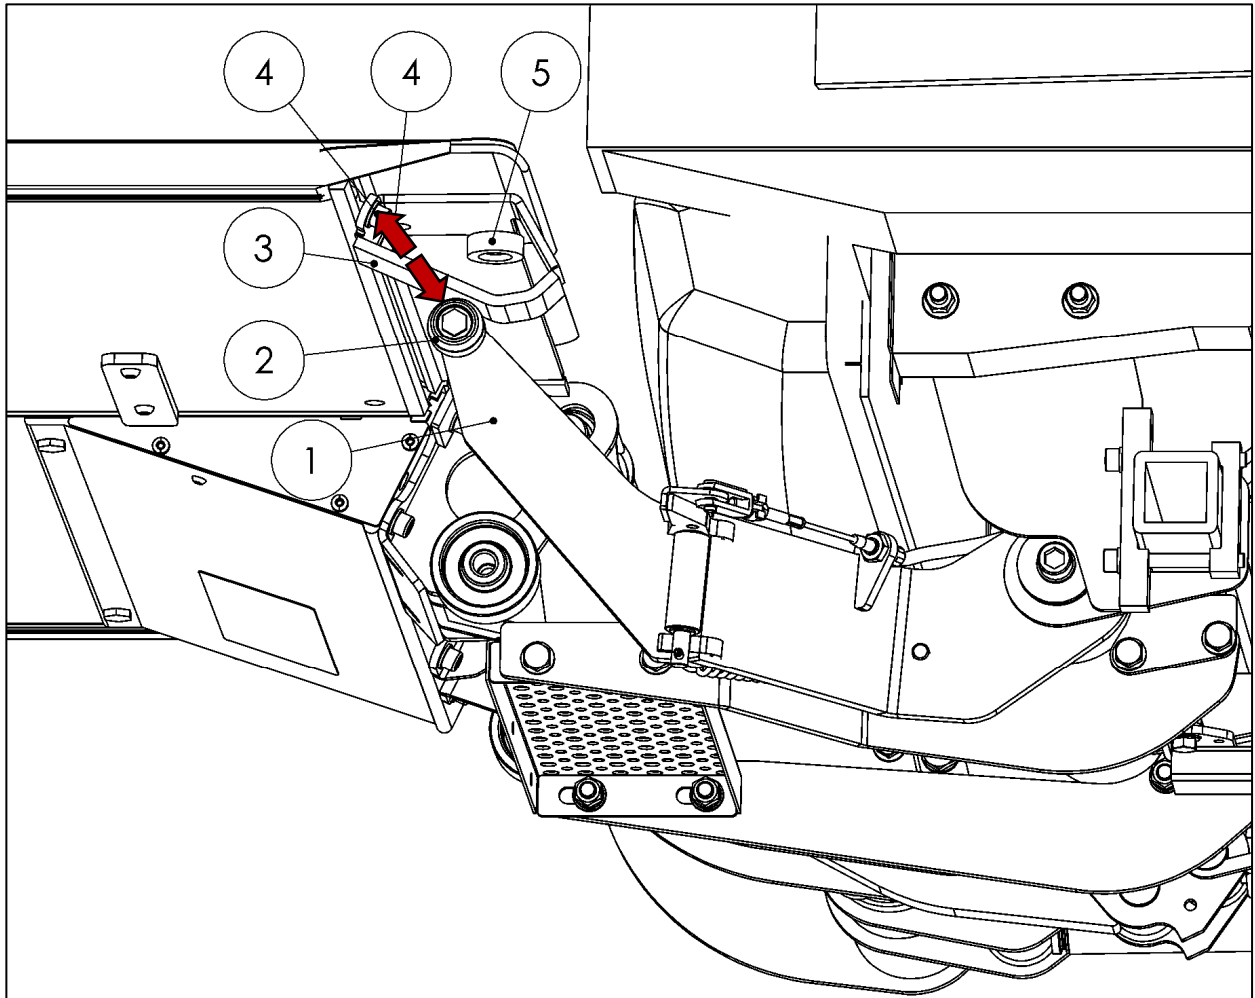

Fig. 74
**IMPORTANT:** The roller (1) on the support arm (2) must remain against the stop (3) throughout the entire lifting process. If necessary, loosen the stop (3) and shift it slightly by loosening 2 cheese-head screws (4). At the same time, the stop (3) must not be shifted too far. When the platform is folded over, the plastic spacer (5) must hold the platform in place (see Fig. 74).